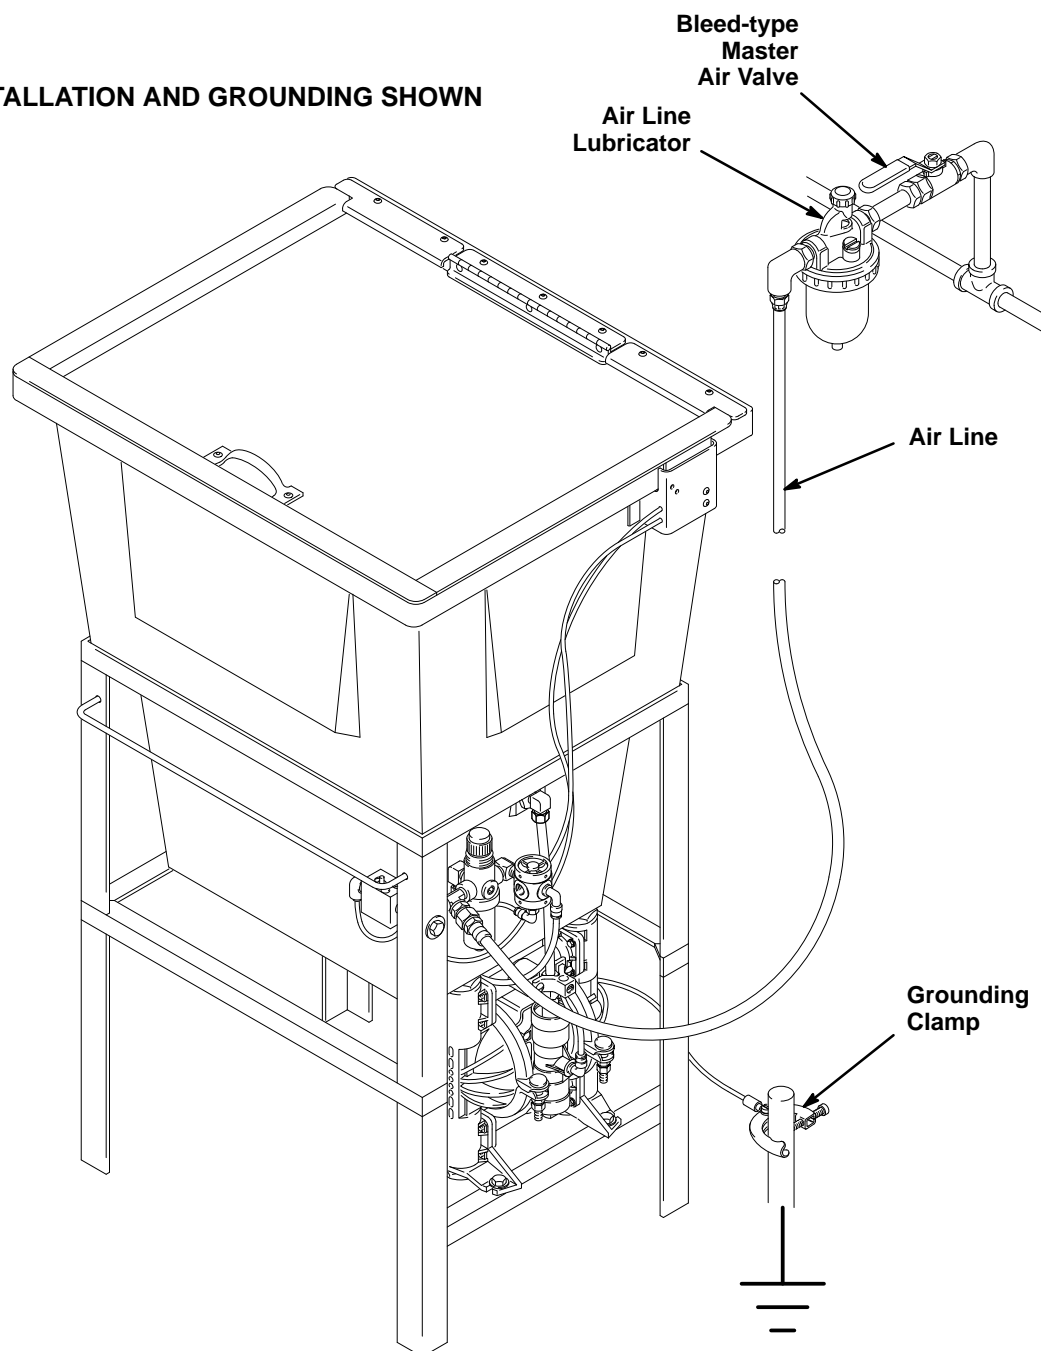

Fig 2
Ground the gun washer and its pump by connecting the clamp end of the gun washer's 15 ft. (4.6 m) ground wire to a true earth ground. See Fig 2.
1. Install a bleed-type master air valve upstream and within easy reach of the gun washer to relieve air trapped between this valve and the pump after the air is shut off. See Fig 2.
2. Install an air line lubricator downstream of the master air valve and as close to the pump as possible for automatic air motor lubrication. See Fig 2.